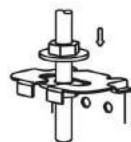

fig. 7
- Locate the air conditioner firmly by wrenching the nuts after having adjusted the body's position well. (refer to fig.7)